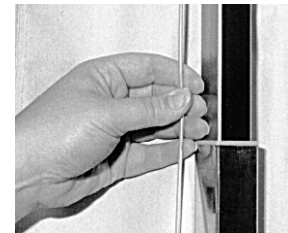

Fig. 11
- Now, complete raising the roof until the gray limit cable is almost tight and the tent is almost taut. DO NOT OVERTIGHTEN. (Fig. 11)